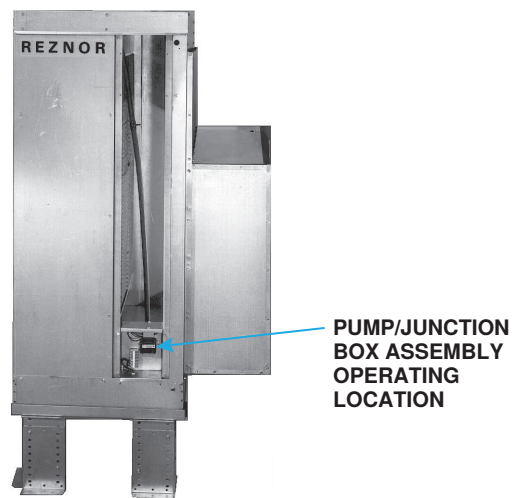

Figure 9. Pump/Junction Box Assembly
2. Install pump/junction box assembly in its operating location (see Figure 9) and secure using existing screws.